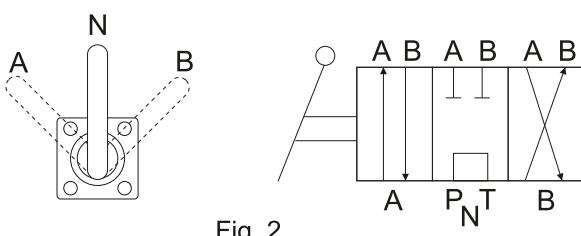

Fig. 2
4.4 Manual Control Valve (Fig.2)